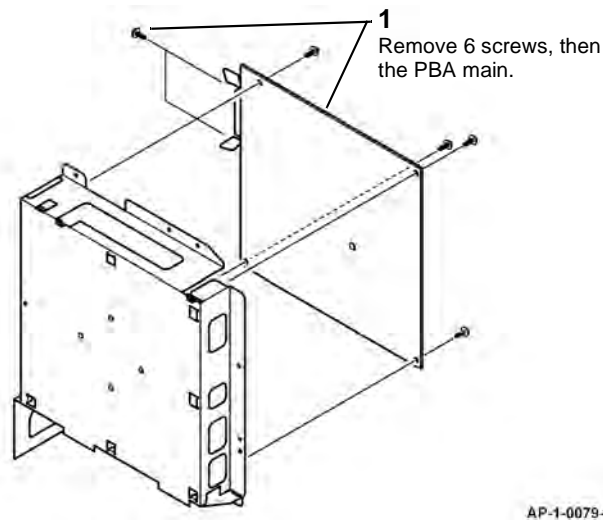

Figure 2 PBA main removal
6. Remove the PBA main, Figure 2.